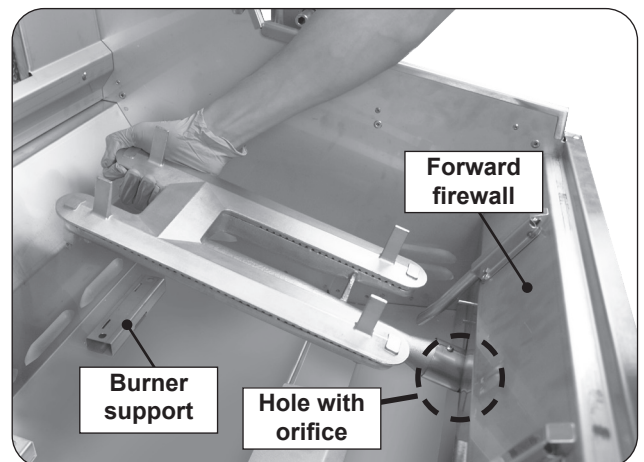

Fig. 43-2 Remove burners
3. Carefully lift the burner from the burner support and out from the hole in the forward fire wall. See Fig. 43-2.